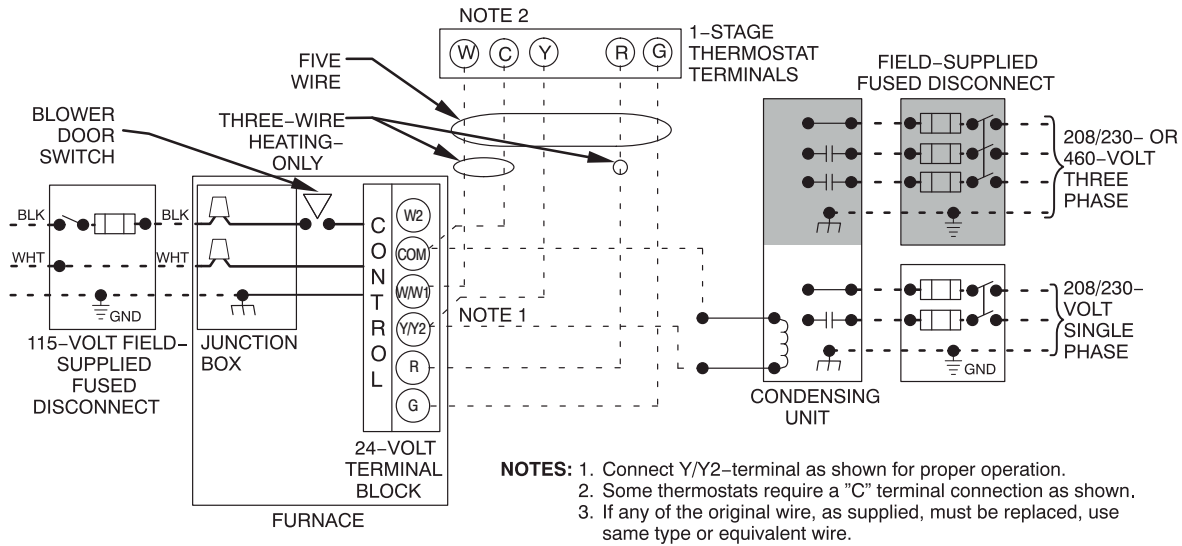

Fig. 37 - Typical Two-Stage Field Wiring Diagram
6. Connect power cord power and neutral leads to furnace power leads as shown in Fig. 37.
5. Connect field power and neutral leads to furnace power leads. as shown in Fig. 37.
Make field 24-v connections at the 24-v terminal strip. See Fig. 38. Connect terminal Y/Y2 as shown in Fig. 37 for proper cooling operation. Use only AWG No. 18, color-coded, copper thermostat wire.